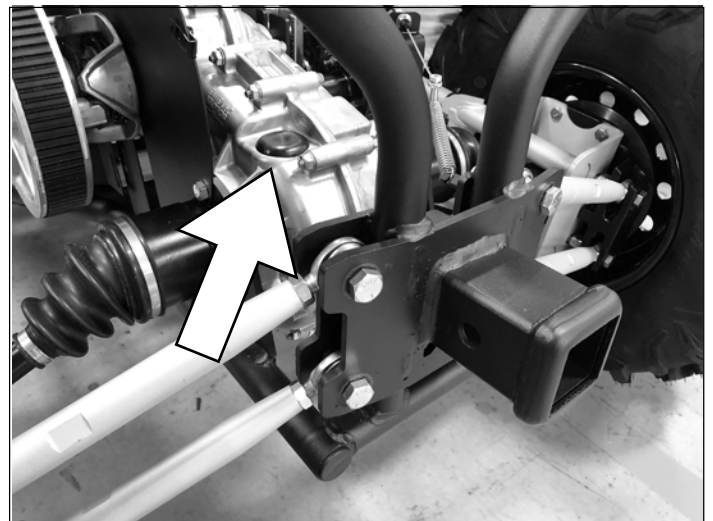

figure 4.5 (transaxle oil fill cap location)
(Refer to figures 4.5, 4.6, & 4.7)
- Fill cap location: At rear driver side (see figure 4.5)